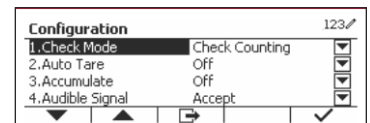

Figure 60
1. Press the softkey corresponding to the  icon to enter the Configuration Setup. Configuration menu is now displayed. (See Figure 60)